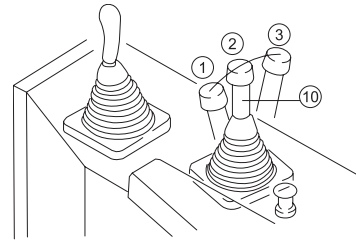

Figure 2-14
The ripper control lever (10) (Figure 2-14)